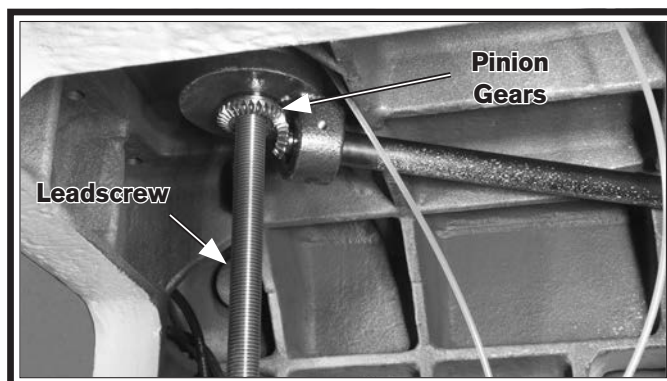

Figure 45. Lower leadscrew and pinion gears.
3. Make sure the pinion gears and leadscrew (**Figure 45**) are wet with oil.